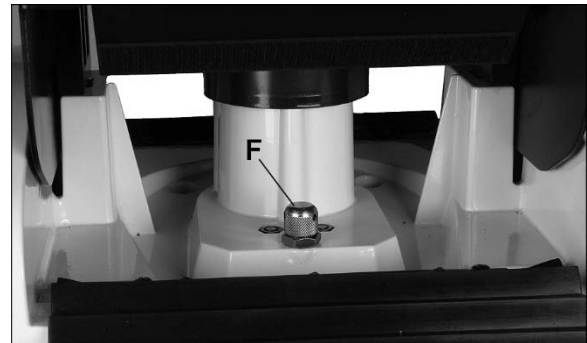

Figure 16
3. Open rear shield, and clean area around oil cap. Unscrew oil cap (F, Figure 16) by hand, and remove spring.